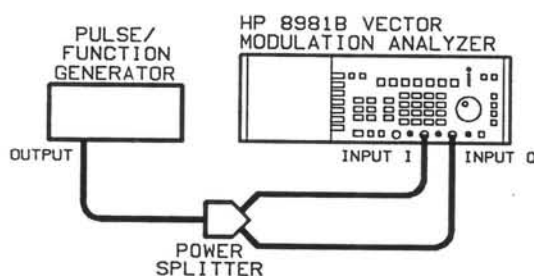

Figure 4-8. I vs Q Differential Accuracy Test Setup
2. Connect the equipment as shown in Figure 4-8: